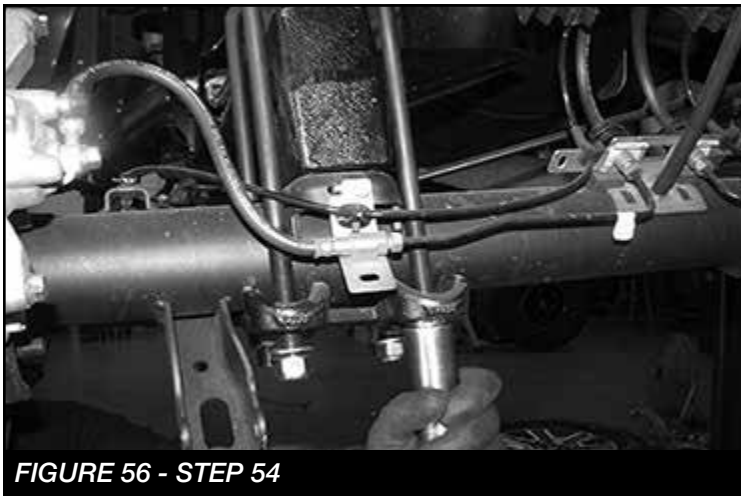

FIGURE 56 - STEP 54
54. Locate and install the rear lift blocks FTBK52. The extended bump stop perch will be facing inboard of the truck. Using the provided u-bolts, nuts and washers, align the axle, lift blocks, and springs and torque u-bolts to 90 ft-lbs. **SEE FIGURE 56**
3. With the vehicle in PARK, start the engine. **NOTE: MAKE SURE THE VEHICLE IS PLACED IN 2WD.** Rotate the wheel/tire and check to see if the CV halfshaft rotates. If the CV halfshaft rotates, either a vacuum leak is present or the IWE (Intergrated Wheel End) was installed improperly. **NOTE: DO NOT OPERATE THE VEHICLE OR DAMAGE WILL OCCUR. SEE FIGURE 56**